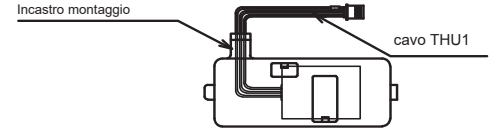

Fig. 2: THU1 wire led out of lead outlet
2. As shown in Fig. 2, lead the THU1 wire out of the lead outlet of mounting box.